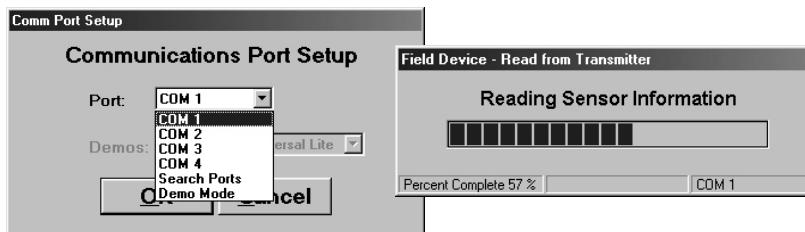

Figure 3-2
- B. Select communication port [Com 1, Com 2, etc.] and then click "OK." **Figure 3-2**.